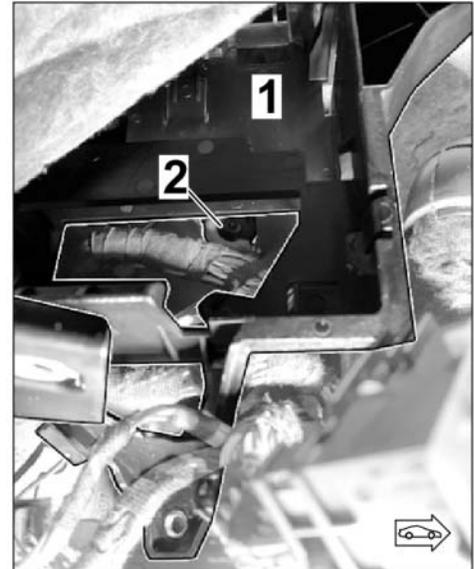

Figure 15
- 3.2.4 Loosen fuse carrier ⇒ *Figure 15 -1-* and route line BK; 0.52 (terminal 31) to the ground pin ⇒ *Figure 15 -2-* and install on the ground pin using a cable ring eyelet.